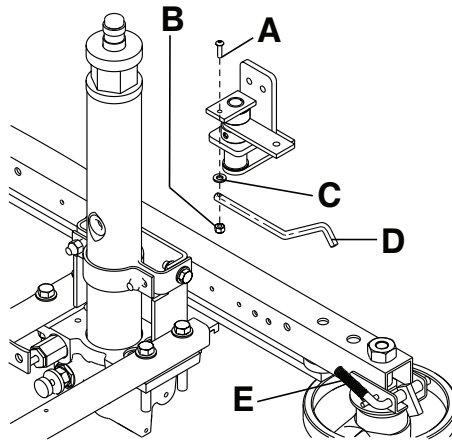

Figure 2 – Steer-Lock spring replacement
4. Using a 3/32" hex wrench and an 11/32" combination wrench, remove the bolt (A), washer (C), and nut (B) that secure the Steer-Lock arm (D) to the base (Figure 2). Save all parts.